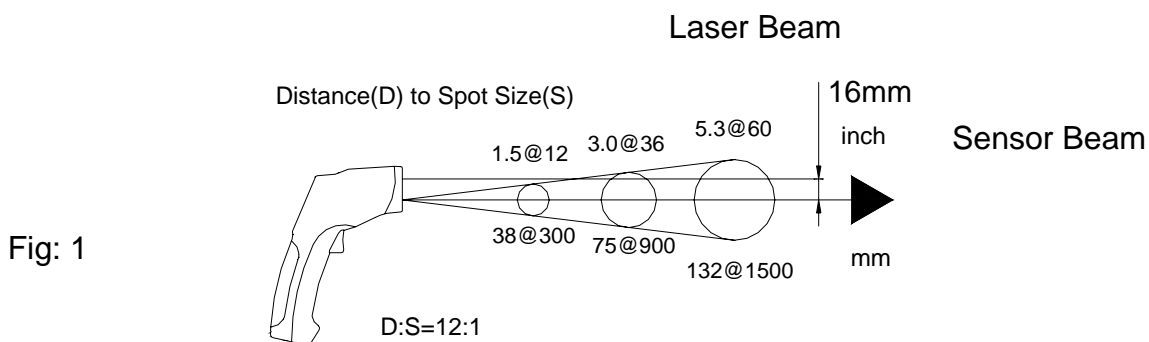

Fig: 1
As the distance (D) from the object increases, the spot size (S) of the area measured by the unit becomes larger. See: **Fig: 1**.